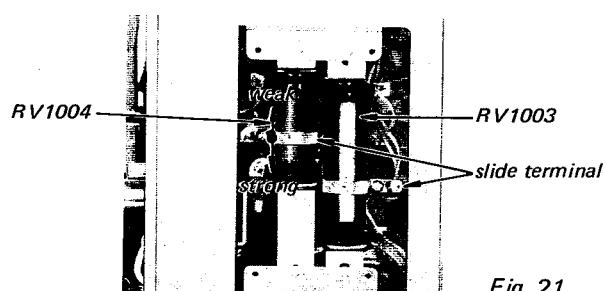
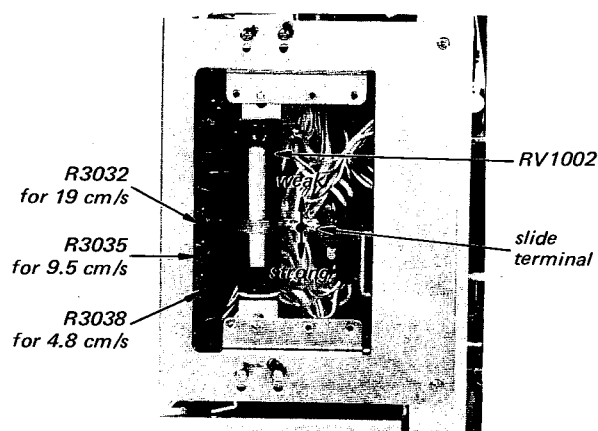

Fig. 21.
Fig. 23.
Back Tension (in the FF and REW mode) Adjustment (Fig. 21.)
Tape Speed Adjustment (Fig. 23.)
Take-up Torque Adjustment (Fig. 23.)
- (1) In the play mode, the torque of the take-up reel should be approximately 350 g·cm (5 oz·inch).
- (2) If necessary, adjust by RV1003 in Fig. 21.
- (3) In the reverse play mode, the torque of the supply reel should be approximately 350 g·cm (5 oz·inch).
- (4) If necessary, adjust by RV1002 in Fig. 23.